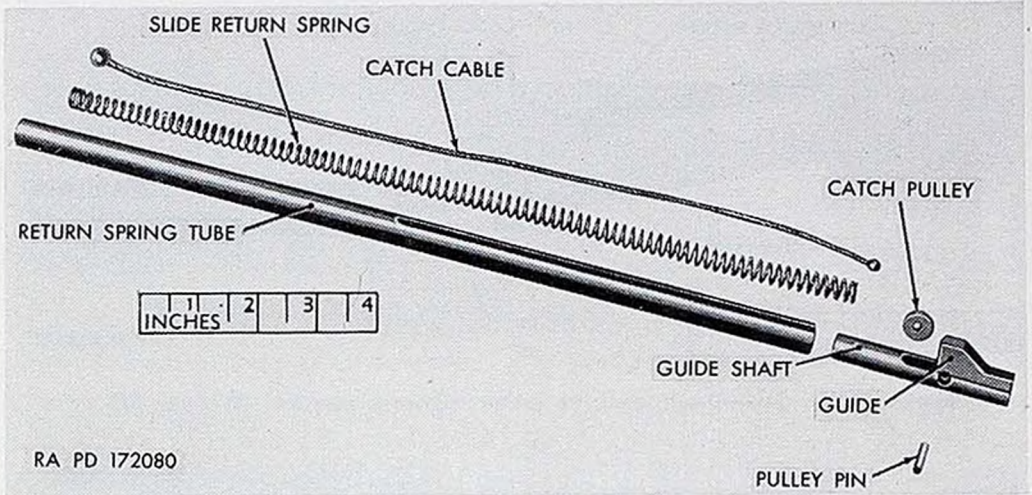
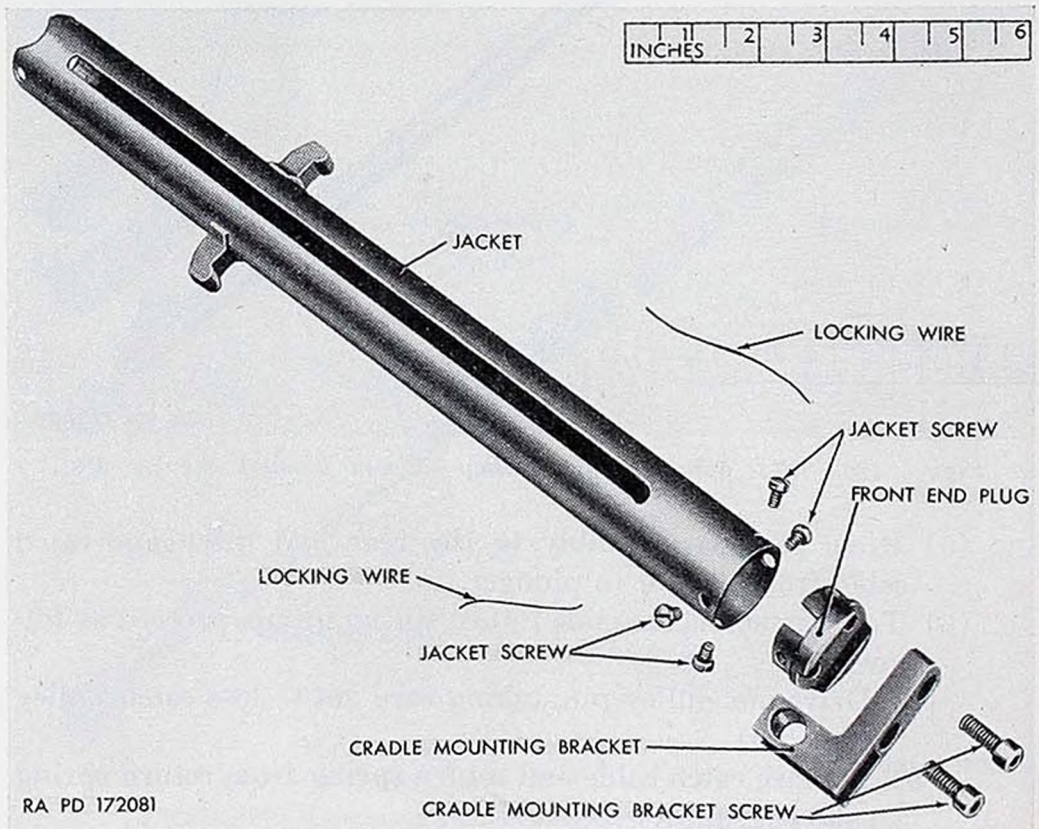

Figure 130. Parts of slide return spring group—20-mm manual charger M6.
Figure 131. Parts of jacket assembly—20-mm manual charger M6.
- (5) Press plunger assembly to the rear and disengage catch cable from its seat in plunger.
- (6) To disassemble the slide return spring group, proceed as follows:
- (a) Drive out pulley pin, taking care not to lose catch pulley (fig. 130).
- (b) Remove catch cable and return spring from return spring tube (fig. 130).
- (c) Withdraw guide from return spring tube (fig. 130).
- (7) To disassemble the jacket assembly, proceed as follows:
- Unscrew the two cradle mounting bracket screws and remove the cradle mounting bracket from jacket (fig. 131).
- Cut and remove locking wire, unscrew the four jacket screws, and drive front end plug from jacket (fig. 131).
(1) To assemble jacket assembly, proceed as follows:
- (*a*) Install front end plug, making certain that seat for return spring tube is on same side as slot in jacket (fig. 131).
- (*b*) Secure front end plug to jacket by means of four jacket screws (fig. 131). Secure the jacket screws with locking wire (fig. 131).
- (*c*) Secure cradle mounting bracket to jacket by means of the two cradle mounting bracket screws (fig. 131), positioning the bracket for right-hand or left-hand charging, as desired (par. 18*a*(1)).
(2) To assemble the slide return spring group, proceed as follows:
- (*a*) Insert catch cable into slide return spring (fig. 130).